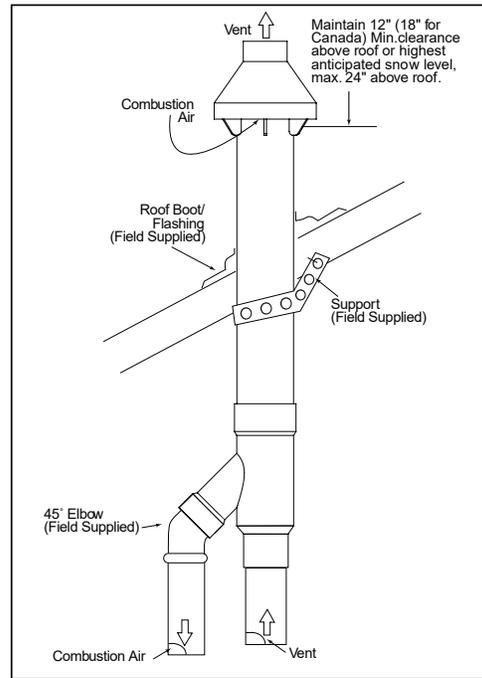

Fig.7-13 Roof Installation
- Install cemented Y concentric fitting and pipe assembly through structure's hole and field supplied roof boot/ flashing. See Fig.7-13).
IMPORTANT: Make sure the termination height is above the roof surface or anticipated snow level (12 inches in U.S.A. or 18 inches in Canada). If the assembly is too short to meet the height requirement, the 2 pipes supplied in the kit may be replaced by using the same diameter, field supplied SDR-26 PVC (D2241) pipe. Do not expand dimension "D" more than 60 inches. See Fig.7-13.